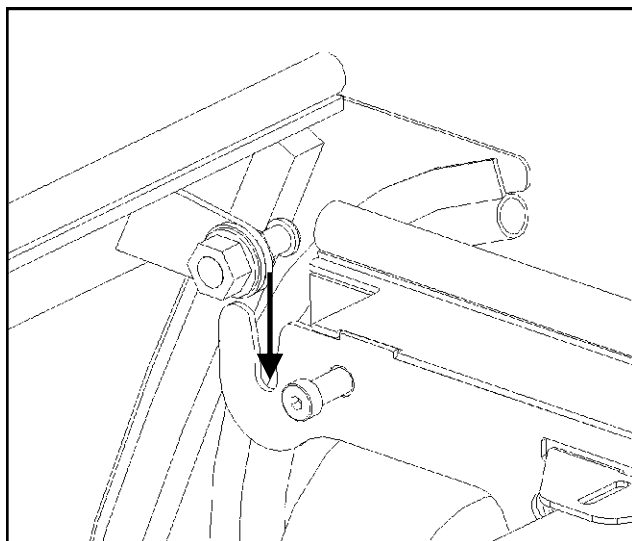

Figure 4.2 View of driver's side rear
4.2 Slide the two pins at the top of the rear panel into the slots at the rear of the top mounts as shown in Figures 4.2 and 4.3. Fasten the bottom latches onto the pins on the rear panel mounts. You should hear the latch make two clicks as it is fastened. Adjust the rear panel mount pins in the slots using a 3/16 Allen and 1/2" wrenches so that the two pins at the top of the rear panel are sitting all the way down in the slots on the top mount.